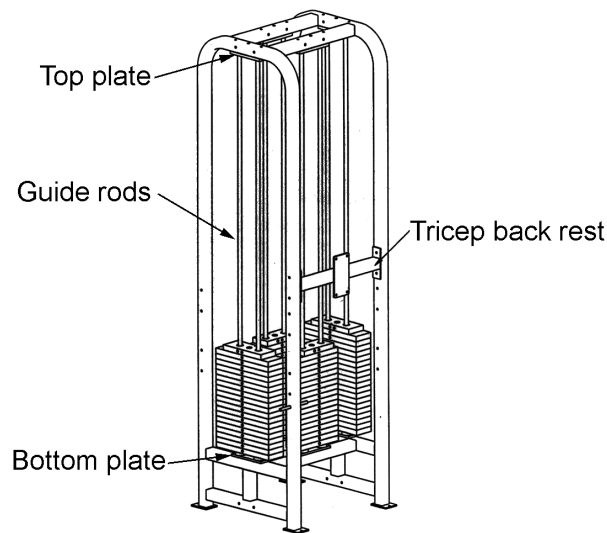
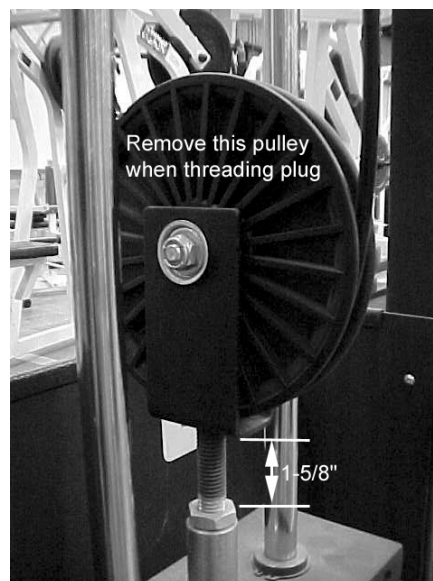
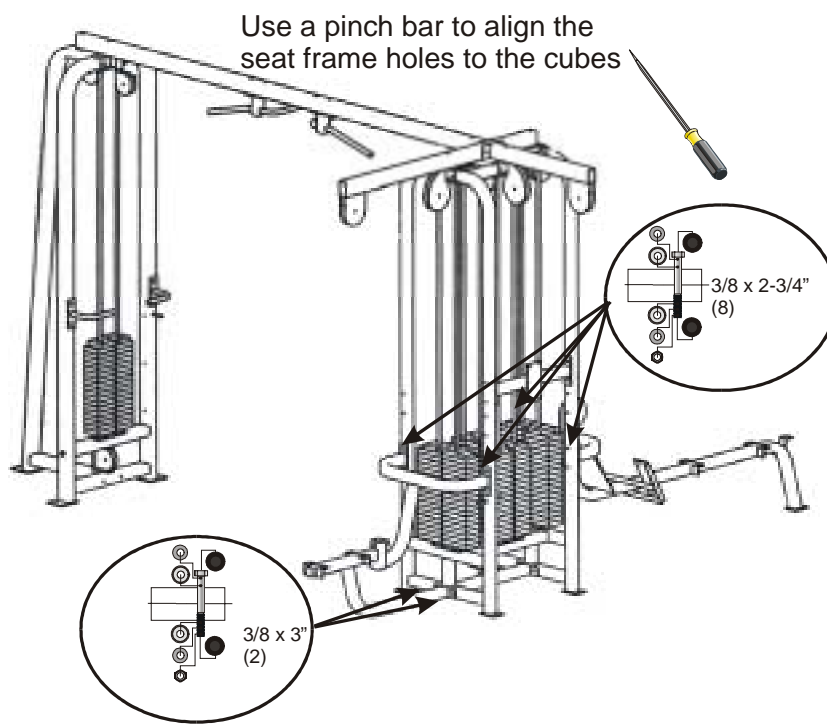

Figure 10. Remove the tricep back rest, the top plate and the guide rods.
Figure 12. Bolt the floating pulley into the 190 lb weight stack (on cable crossover).
Figure 13. Mount the benches to the frame.
- A. **Remove the tricep back rest bolts** using a 9/16" socket and combination wrench (see Figure 10).
- B. **Unbolt the top plate and remove the guide rods** using a 9/16" socket and combination wrench (see Figure 10).
6. **Bolt the floating pulley into the 190 lb cable crossover weight stack (NOT intended for the tricep pushdown weight stack- the one with the tricep back rest mounted to the frame as shown in Figure 10) using a 7/8" combination wrench. You will need to remove the pulley from the housing to thread the plug into the weight stack bayonet. Make sure the 9/16" jam nut is threaded 1-5/8" away from the pulley as shown in Figure 12. Leave the pulleys out since you will need to have them out when the cable is routed.**
7. **Mount the seated row and lat bench to the frame.** Using the bolts specified in Figure 12 and a 9/16" socket and combination wrenches, mount the benches as shown in Figures 13 and 14.